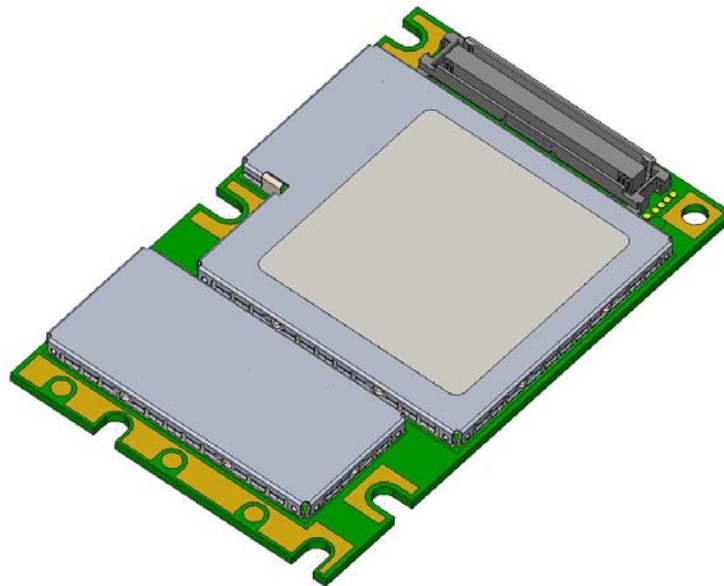

Figure 8: AH3-W – top view
Figure 8 shows a 3D view1 of AH3-W and provides an overview of the board's mechanical dimensions. For further details see Figure 9.
*Note: There is no inverse polarity protection for the board-to-board connector. It is therefore very important that the board-to-board connector is connected correctly to the host application, i.e., pin1 must be connected to pin1, pin2 to pin 2, etc. Pin assignments are listed in Section 6.5, pin locations are shown in Figure 8.*